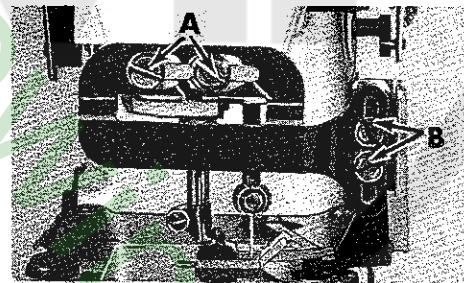

Fig. 15
OF NEEDLES on Styles 59300 C and E; on Styles 59300 F and G as close as possible without touching. The stripper blade should be set $\frac{1}{8}$ inch (3.18 mm) ABOVE THE TOP OF THROAT PLATE on Styles 59300 C and E; $\frac{5}{32}$ inch (3.97 mm) on Styles 59300 F and G. IN FRONT OF NEEDLES setting is accomplished by loosening screws (A, Fig. 15) position bracket as required and retighten screws. ABOVE THE TOP OF THROAT PLATE setting is accomplished by loosening locknuts securing screws (B, Fig. 15), then loosen screws (B) and position stripper blade holder as required. Retighten screws (B) and locknuts.